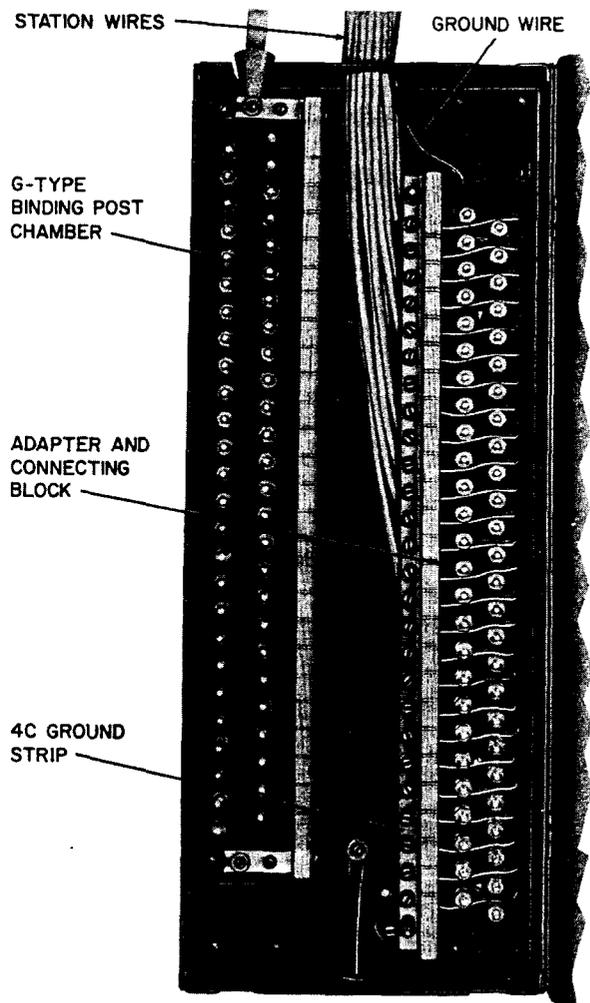

Fig. 9—Termination of Triple-Jacketed Inside Wire
- The method of terminating triple-jacketed inside wire at a GC-type cable terminal is shown in Figure 9.